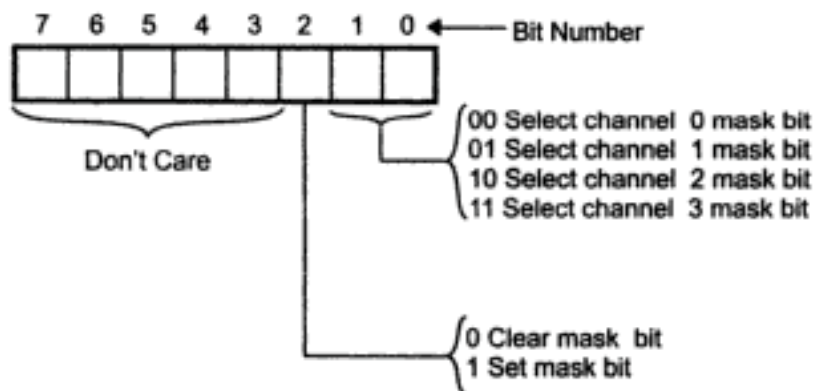

Fig. 6.19 Mask register
**6. Mask Register :** Each channel request can be individually masked by setting the proper bit pattern in the mask register. Fig. 6.19 shows the bit patterns of the mask register.